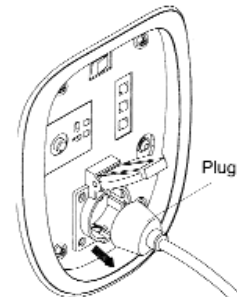

fig. 9
3.6.1 Switch off the connected equipment and disconnect the equipment plug. Refer to fig. 9.